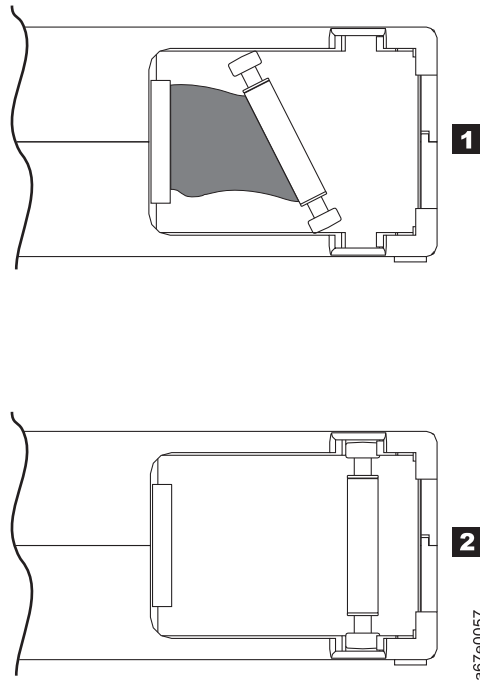

Figure 4-8. Leader pin in the incorrect and correct positions. The cartridge door is open and the leader pin is visible inside the cartridge.
- Check that the leader pin is properly seated (see **2** in Figure 4-8 on page 4-13).
- Do not drop the cartridge. If the cartridge drops, slide the cartridge door back and ensure that the leader pin is properly seated in the pin-retaining spring clips. See **2** in Figure 4-8 on page 4-13. If the leader pin becomes dislodged, go to “Repositioning or reattaching a leader pin” on page 4-12.
Improper placement of leader pin. See Figure 4-8 on page 4-13.
A leader pin that is improperly seated inside a cartridge interferes with the operation of the drive. Figure 4-8 on page 4-13 shows a leader pin in the incorrect **1** and correct **2** positions.